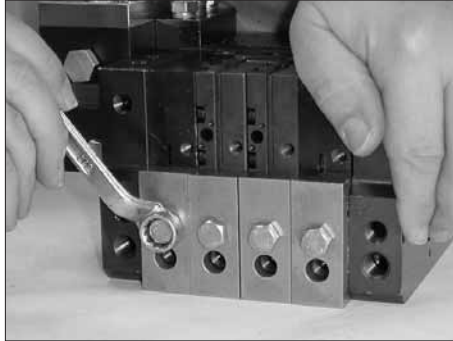

Figure 7-78 Tightening the pump clamp bolts
8. See Figure 7-78. Using an M13 wrench, completely tighten the pump clamp bolts.